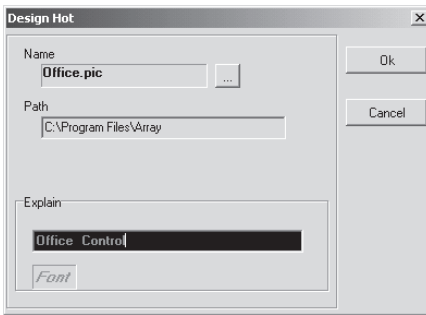

Fig. 4.37 Define Hot Area
1. Click the **quick icon** of the hot area  move the mouse to the **position in which to put the hot area**, then move it together with the rectangle appearing and click the **position where the rectangle appears**, then the dialogue frame, as in Fig. 4.37, will be shown. If you want to modify the defined hot area, just double click **the hot area** in the drawing diagram and the hot area definition dialogue frame, as in Fig. 4.37, will be opened.